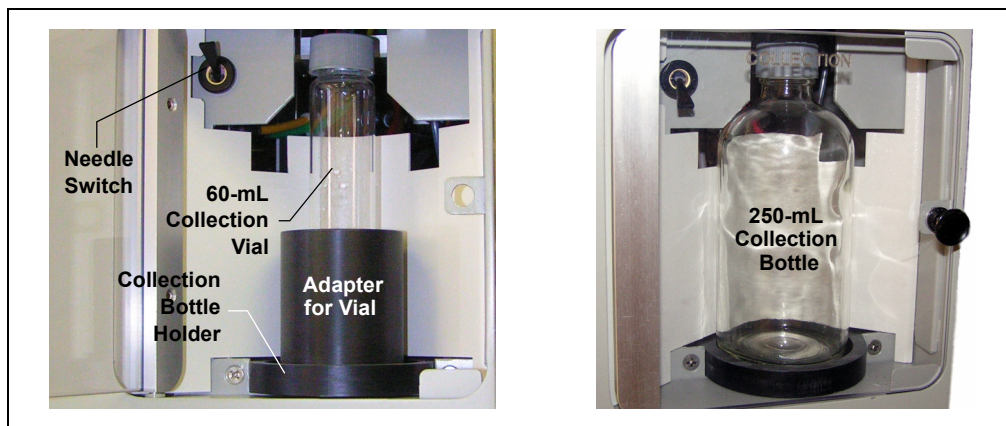

Figure B-13. Installing the Collection Vessel
1. Open the collection vessel compartment door and toggle the needle switch to the **UP** position (see Figure B-13).
bottle holder (see Figure B-13). If you are using a 250-mL collection bottle, place the bottle directly on the collection bottle holder.